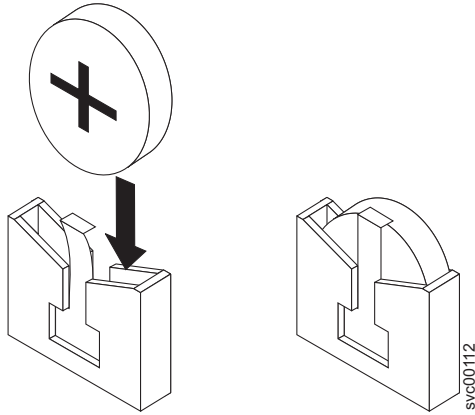

Figure 147. CMOS battery socket
- c. Slide the battery down until it snaps into place, as shown in Figure 147 on page 155.